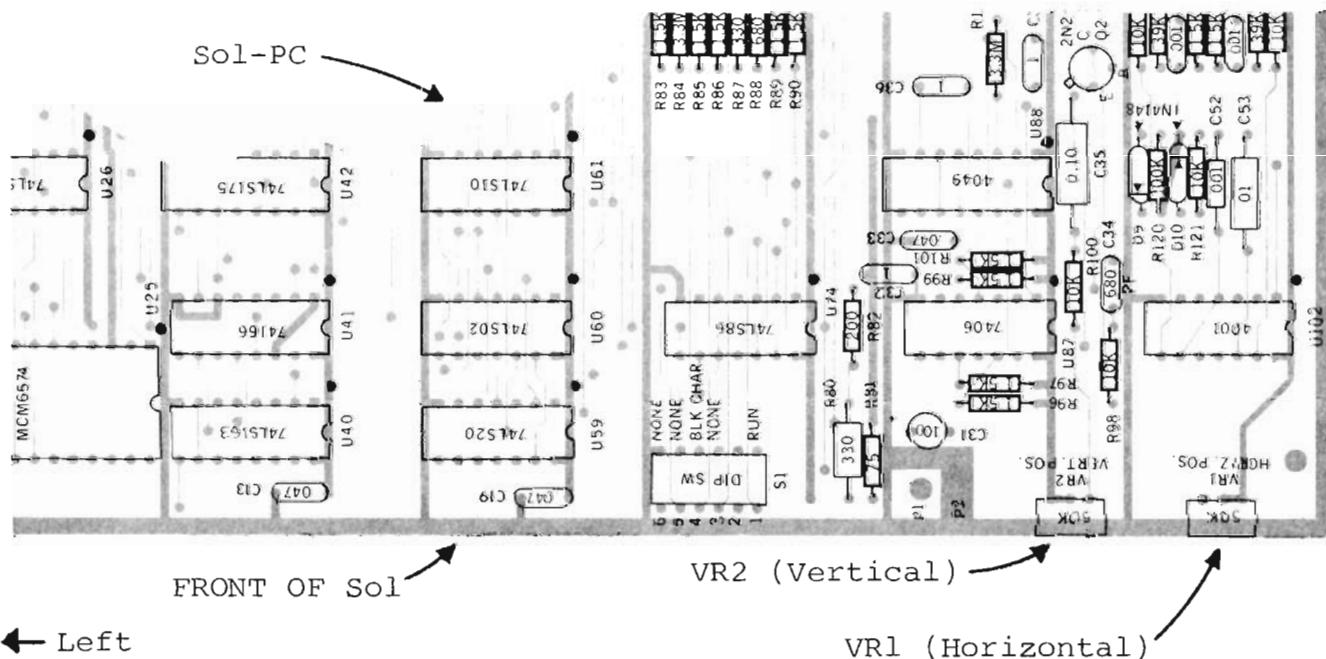

Figure 7-3. Location of positioning adjustments, VR1 and VR2.
- ( ) Step 10. You should see a prompt character followed by the cursor (>) in the upper left corner of the screen. If you don't, adjust VR1 and VR2 (see Figure 7-3) to move the prompt character and cursor onto the screen.